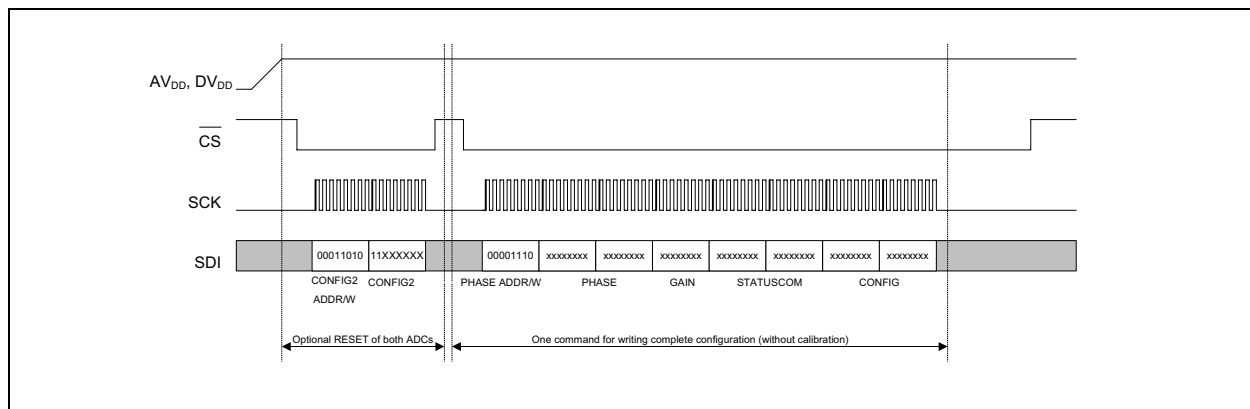

FIGURE 6-8: Recommended Configuration Sequence at Power-up.
- Write all Configuration registers in one communication (see Figure 6-8)
It is recommended to enter into ADC Reset mode for both ADCs, just after power-up, because the desired MCP3911 register configuration may not be the default one, and in this case, the ADC would output undesired data. Within the ADC Reset mode (RESET<1:0> = 11), the user can configure the whole part with a single communication. The write commands automatically increment the address so that the user can start writing the PHASE register and finish with the CONFIG register in only one communication (see Figure 6-8). The RESET<1:0> bits are in the last byte of the CONFIG register to allow exiting the Soft Reset mode, and have the whole part configured and ready to run in only one command.